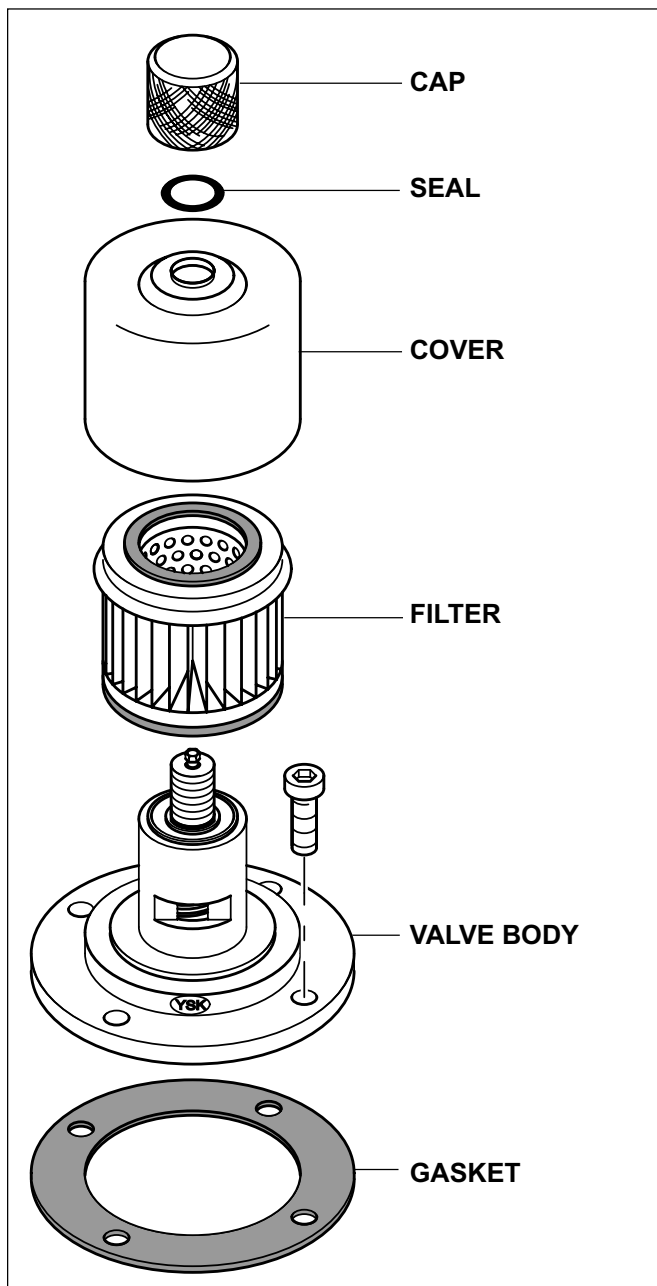

FIGURE 4.51B
2. Remove cap. See Figure 4.51B
3. Remove breather filter cover. See Figure 4.51B.
4. Remove old filter, clean mounting surfaces and install new filter. See Figure 4.51B. Order Part Number YN57V00002S010.